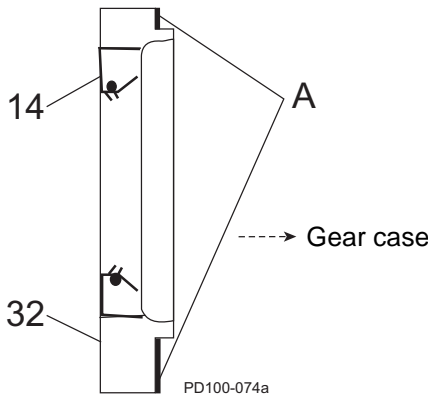

Figure 57 - Install Bearing Retainer
18. Coat the retainer flanges with silicone sealant (Figure 57, item A). (Gore-Tex® sealing tape can be used on silicone free models.) The grease seal (item 14) will be flush with the front of the bearing retainer. On 030 models, the grease seal will be against the step on the inside diameter of the retainer.
19. Install the bearing retainers (Figure 57, item 32).